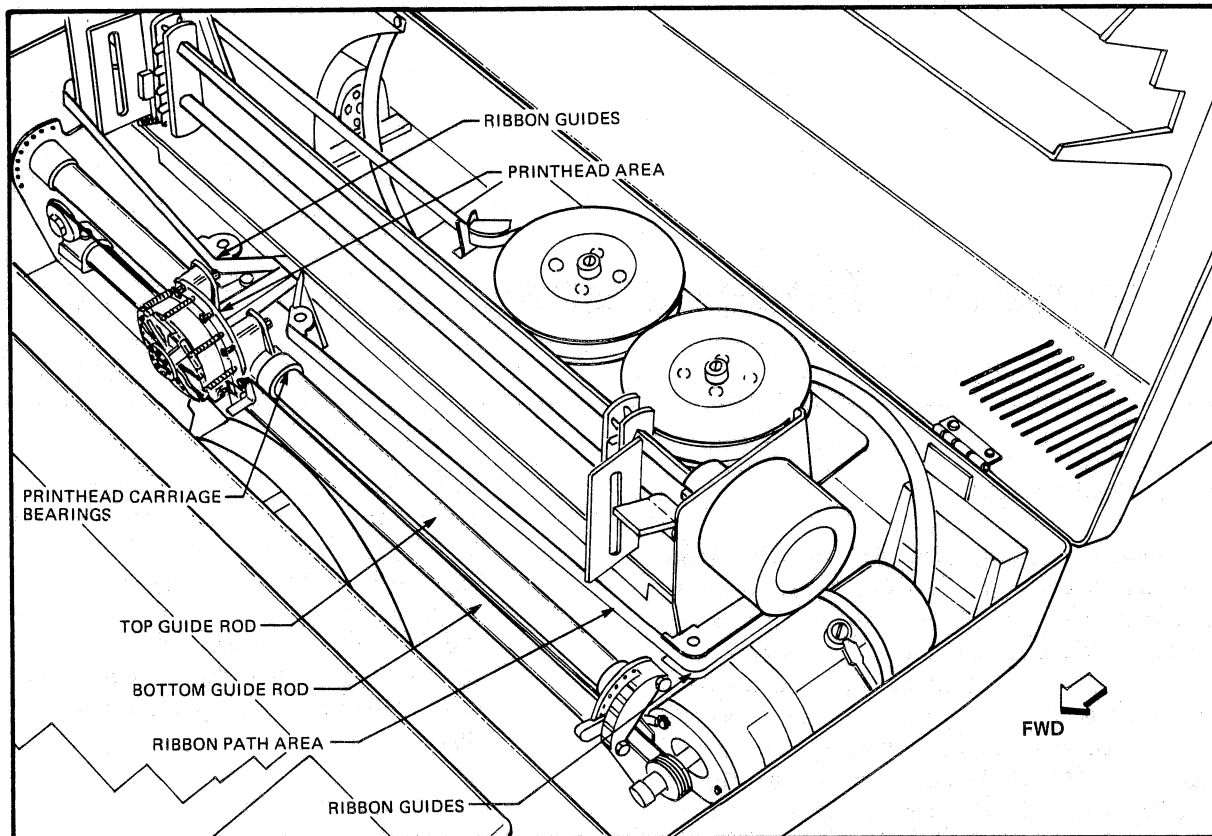

Figure 10-1. Printhead Area, Guide Rods, and Ribbon Guide
2. Lift the cover and carefully vacuum paper chaff from the printhead and ribbon path areas (Figure 10-1).